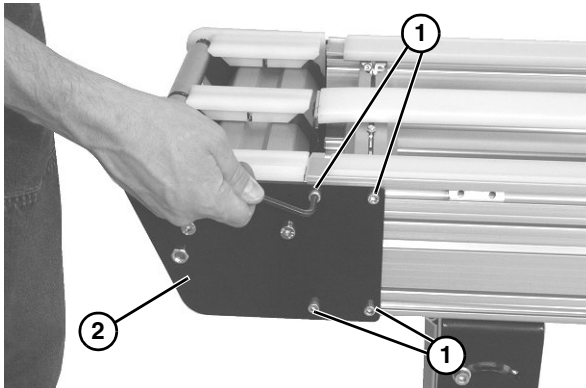

Figure 39
2. On one side of conveyor, loosen the four socket head screws (**Figure 39, item 1**). Repeat on opposite side.
3. Remove idler tail assembly (**Figure 39, item 2**).